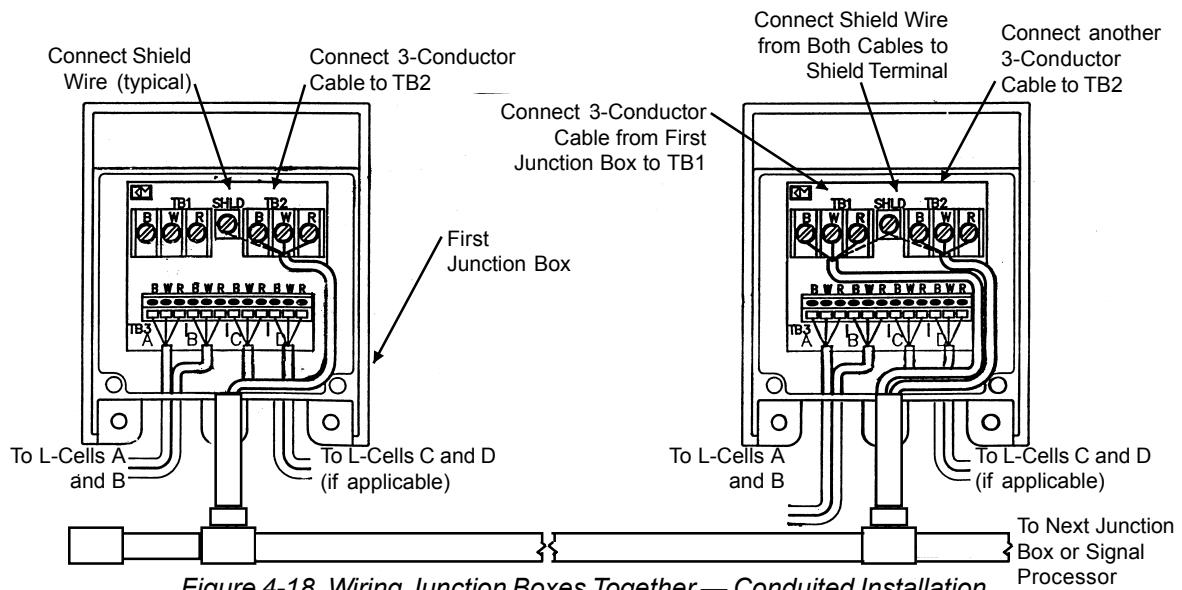
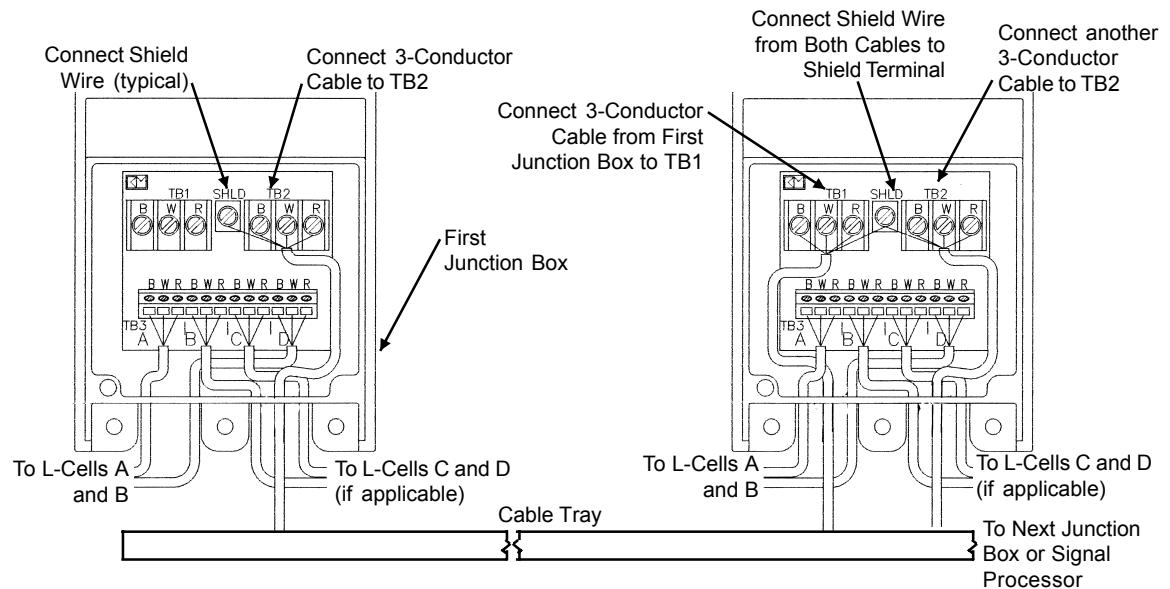

Figure 4-18. Wiring Junction Boxes Together—Conduited Installation
Figure 4-19. Wiring Junction Boxes Together—Non-Conduited Installation
2. See Figure 4-18 (conduited installation) or Figure 4-19 (non-conduited installation). Route the 3-conductor cable through the fitting into the junction box farthest from the signal processor. Connect wires from the cable to the TB2 terminal in the junction box: black wire to B terminal, white wire to W terminal, and red wire to R terminal. Connect the cable shield wire to the Shield terminal between TB1 and TB2.